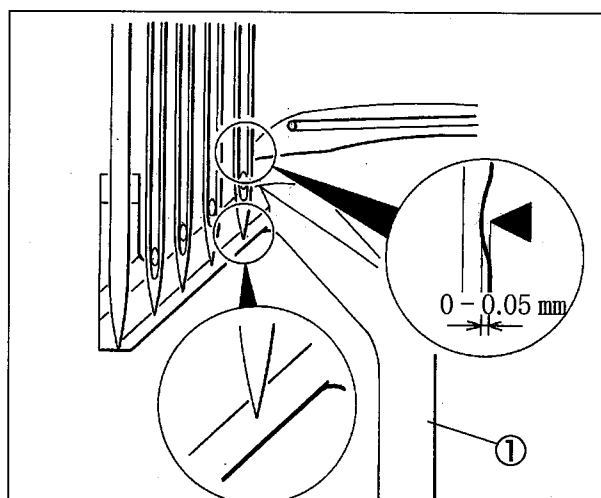

Fig. 22
(1)When the looper tip meets the center of the extreme right needle, make the clearance between them to 0 - 0.05 mm to push the needle guard(rear)① to the right needle.(Fig. 22)